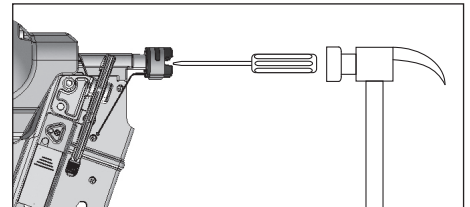

Figure 25
4. If necessary, use small hand tools to help free the jammed nail. Sometimes it is necessary to use a hammer and a long, thin screwdriver to force the driver ram back all the way into the gun (See Figure 25).